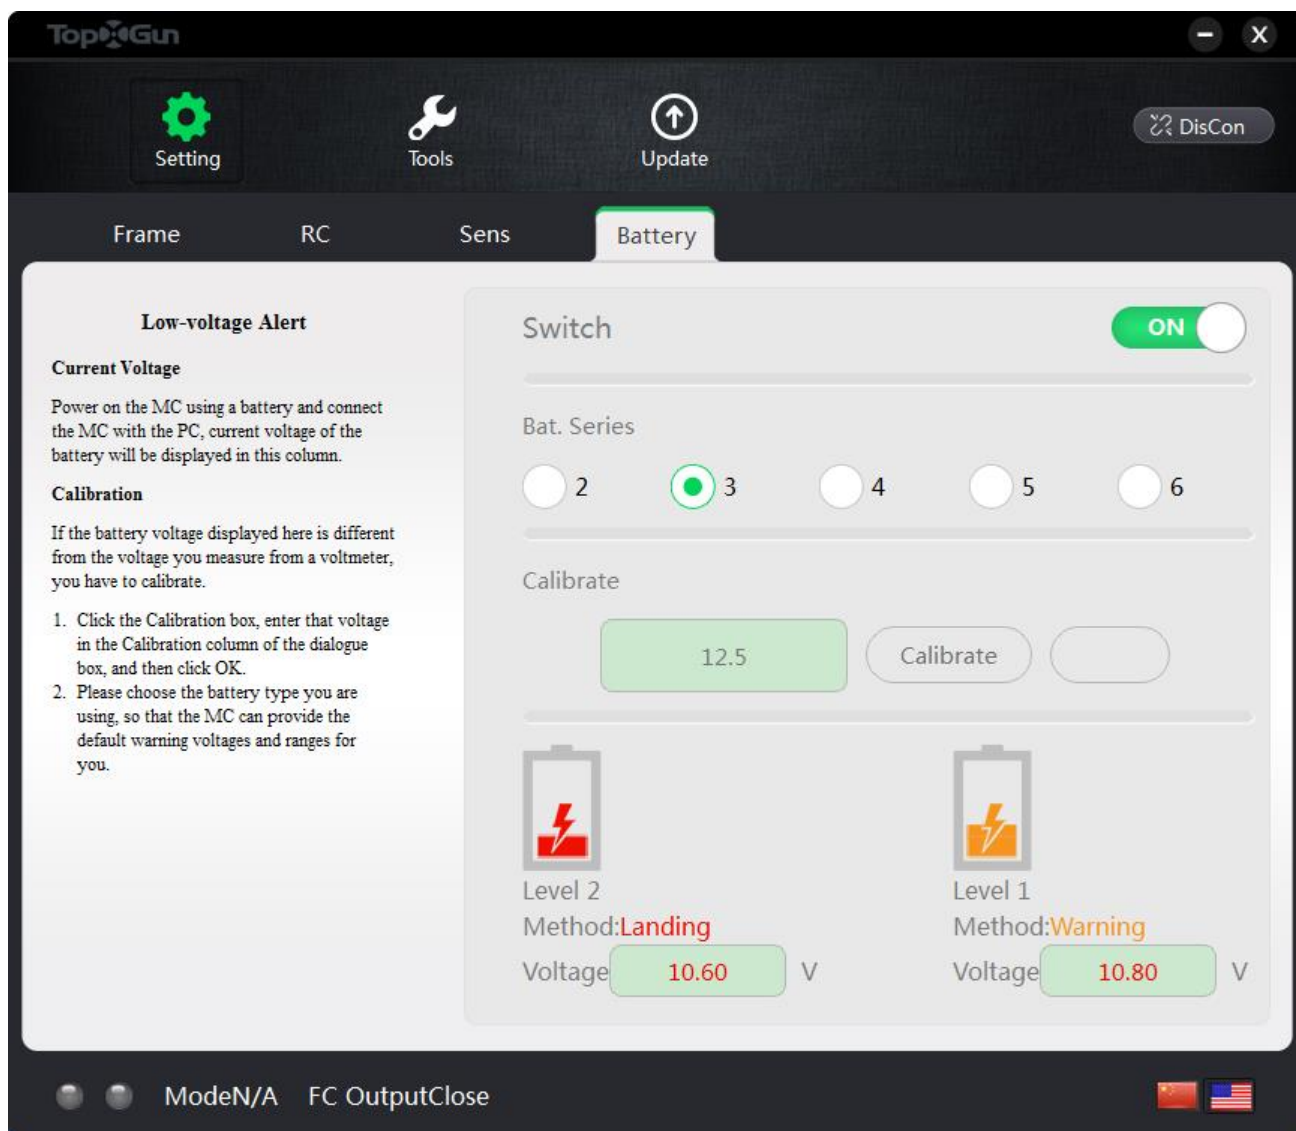

Figure 1-7 Low-voltage protection setting
Step5. Low-voltage protection setting, as shown in Figure 1-7.